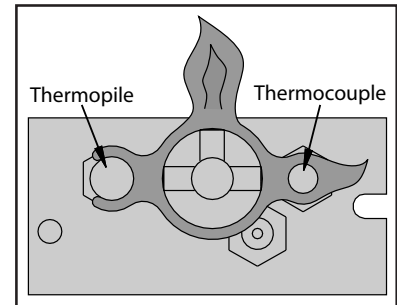
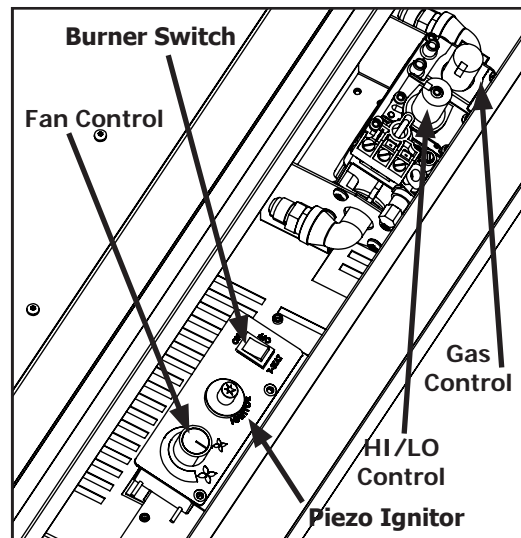

Figure 3: Pilot Flame
Figure 5: Control Panel
1. Turn off the gas to the fireplace. If **not recently done, remove the glass and let the unit air out for at least five (5) minutes to clear out any gas.** Turn on gas to the heater.
2. Be sure there is no burner media in the protected pilot area of the burner pan. Start the pilot by pressing the gas control knob (Figure 5) and turning it to PILOT. Turn the gas control knob to pilot and push in, press the piezo ignitor several times until the pilot light starts. Hold the gas control knob in for at least 30 seconds once lit. Check that the pilot has fully engulfed the thermocouple assembly (see Figure 3). The pilot should now stay lit on its own.
Flip switch to OFF to turn off burners, turn the gas control knob to OFF to extinguish the pilot flame. Keep the pilot flame **OFF** when not in use. If the fireplace is to be serviced, turn the gas shut off valve to OFF (DO NOT FORCE IT) and disconnect all electrical power sources. See Figure 5 for control panel layout.